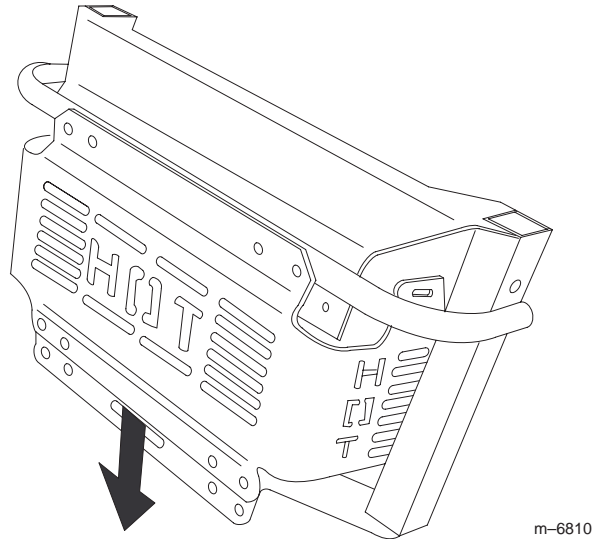

Figure 7
- Slide the heat shield down until the holes align with the bagger bracket holes (Fig. 7).